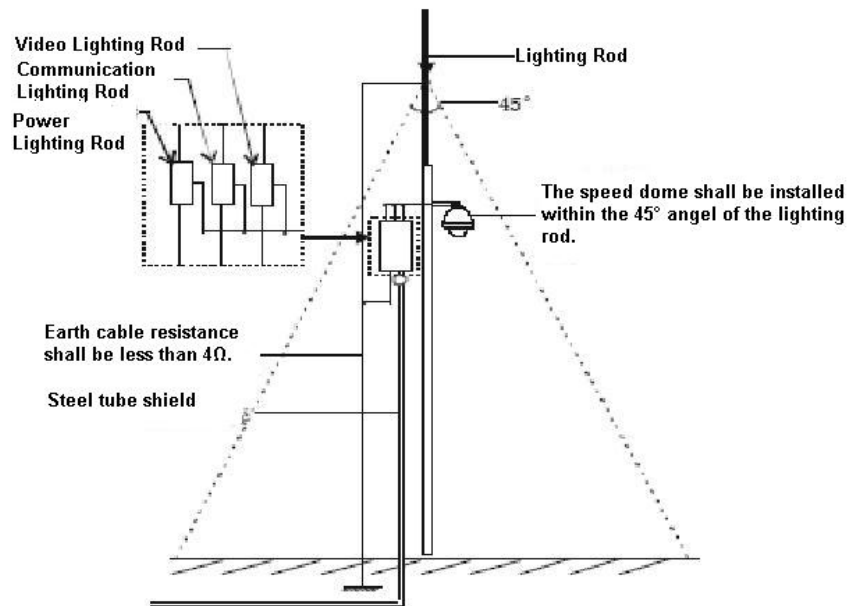

Figure 7-1
- System shall adopt equal-potential wiring. The earth device shall meet anti-jamming and at the same time conforms to your local electrical safety code. The earth device shall not short circuit to N (neutral) line of high voltage power grid or mixed with other wires. When connect the system to the earth alone, the earth resistance shall not be more than  $4\Omega$  and earth cable cross-sectional area shall below 25 mm2. See Figure 7-1.